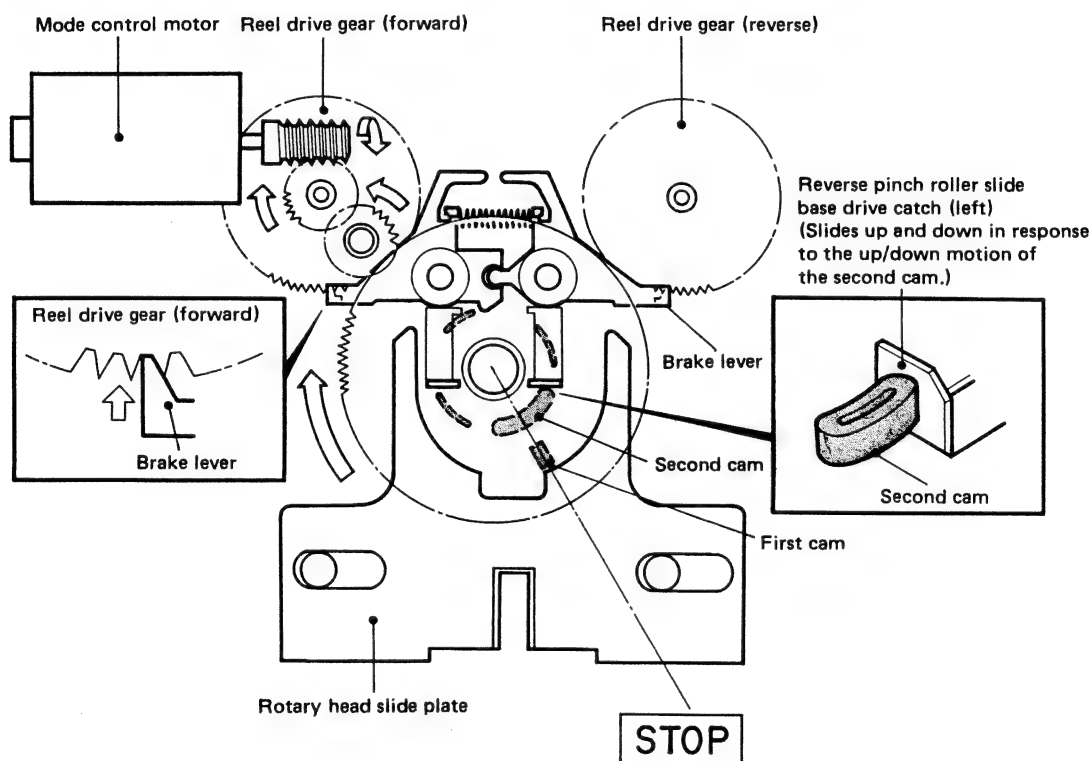

Fig. 8a (rear view)
- 2) The second cam on the cam disc plate turns downwards. Thereby, as the drive catch of the reverse pinch roller slide base descends, the pinch roller (reverse) and the head base also descend. When the cam disc plate thus comes to the stop position in Fig. 8a, the stop (reverse) mode code is generated by its associated code pattern. When the controller detects this code, it acts to stop the mode control motor.